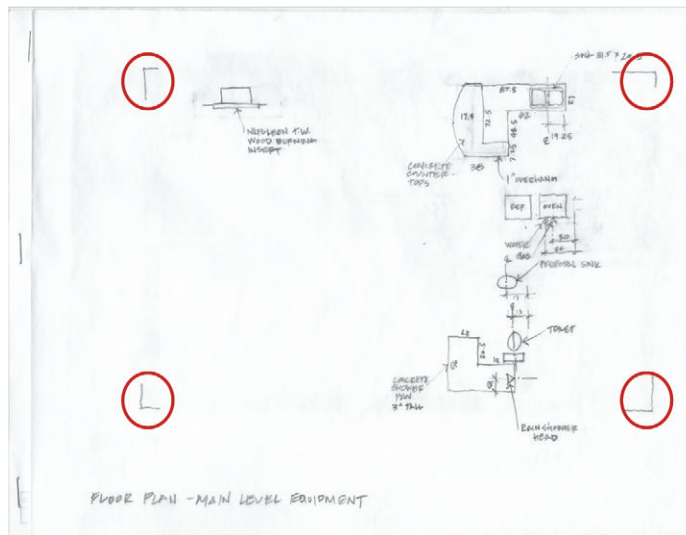
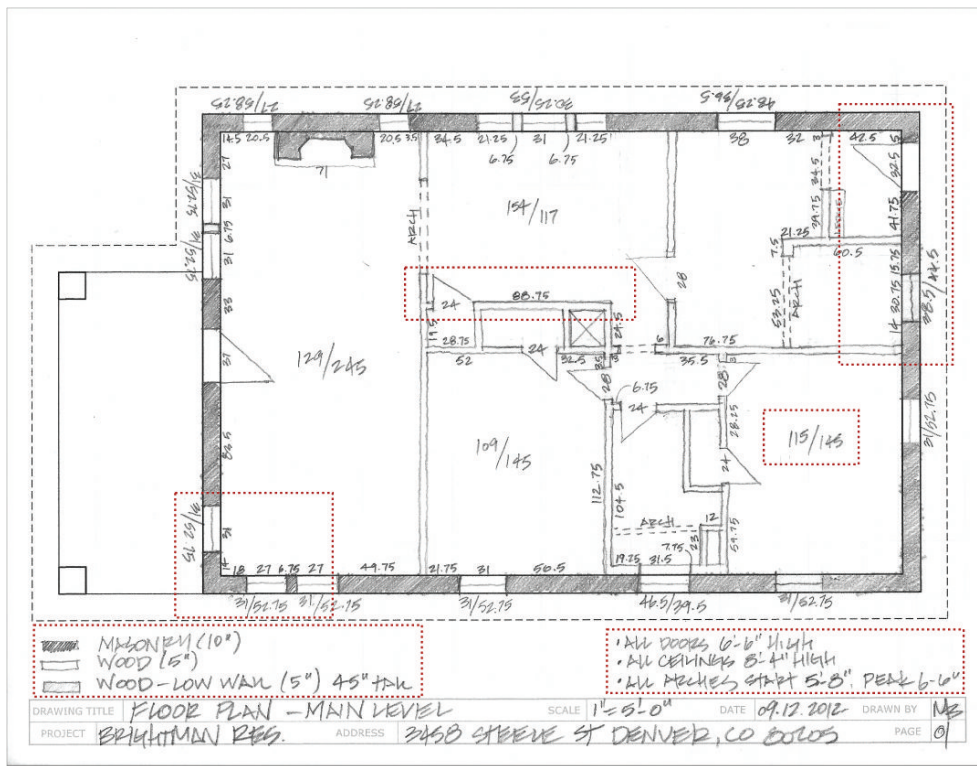

Figure 17.18 The Equipment information and dimensions are recorded on a separate piece of trace paper.
Figure 17.19 The final field measurements
- ☑ Record the wall locations only on the main plan. Bring letter-sized tracing paper to document additional layers, such as equipment (Figure 17.18), reflected ceiling plans, framing, etc. This will help you keep your drawing clean and organized. Be sure to mark where each drawing sits by tracing the corners of your plan (Figure 17.19).